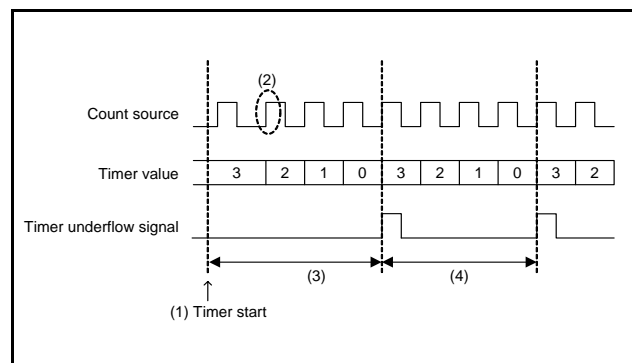

Fig 70. Timer count start timing and count time when operation starts (2)
(19) Timer 2, LC count start timing and count time when operation starts
Count starts from the first edge of the count source (2) in Figure 70 after timer 2 and LC operation start (1) in Figure 70.
Time to first underflow (3) in Figure 70 is different (for up to 1 period of the count source) from time among next underflow (4) in Figure 70 by the timing to start the timer and count source operations after count starts.